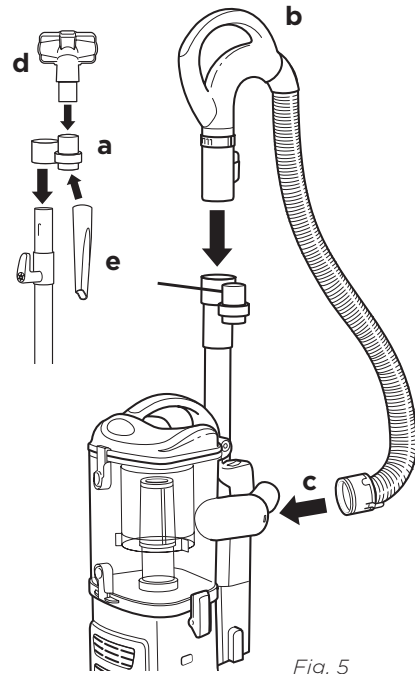

Fig. 5
- 4 To slide the accessory holder **(a)** onto the wand, align the tab in the holder with the groove in the wand, then slide the holder down. **(Fig. 5)**
- 5 Insert the handle **(b)** into the top of the wand until it clicks into place. **(Fig. 5)**
- 6 Insert the end of the hose **(c)** into the connector on the back of the canister. **(Fig. 5)**
- 7 Store the dusting brush **(d)** and the crevice tool **(e)** on the accessory holder. **(Fig. 5)**